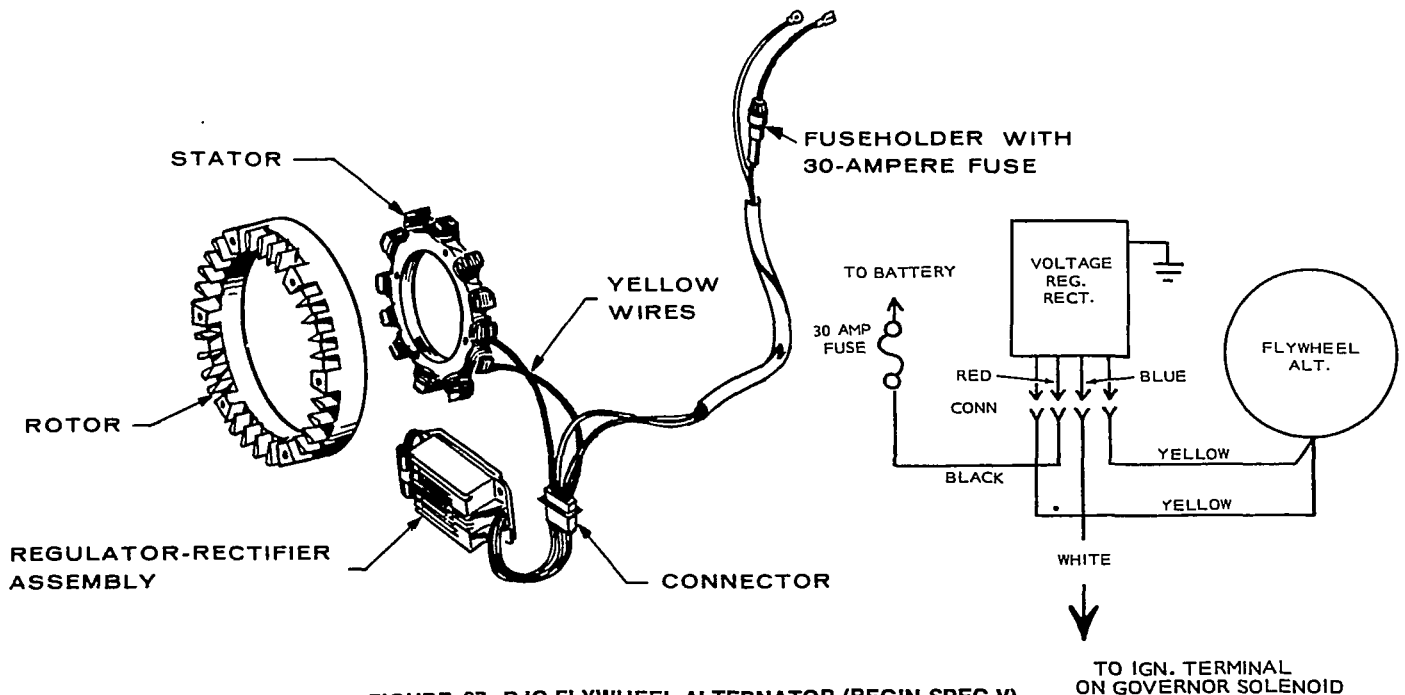

FIGURE 37. DJC FLYWHEEL ALTERNATOR (BEGIN SPEC V)
The Wico flywheel alternator (Figure 37) is rated 20 amps at 3600 rpm. It is a permanent magnet alternator; a solid state voltage regulator-rectifier controls the output. The maximum output on DJB, DJBA, and DJC engines is only 15 amps at 2400 rpm.
2. Unplug connector (Figure 37) and connect meter leads to two terminals of female plug with yellow wires. Meter should read less than 0.8 ohms if stator has continuity. If meter shows no reading, winding is open and stator should be replaced.